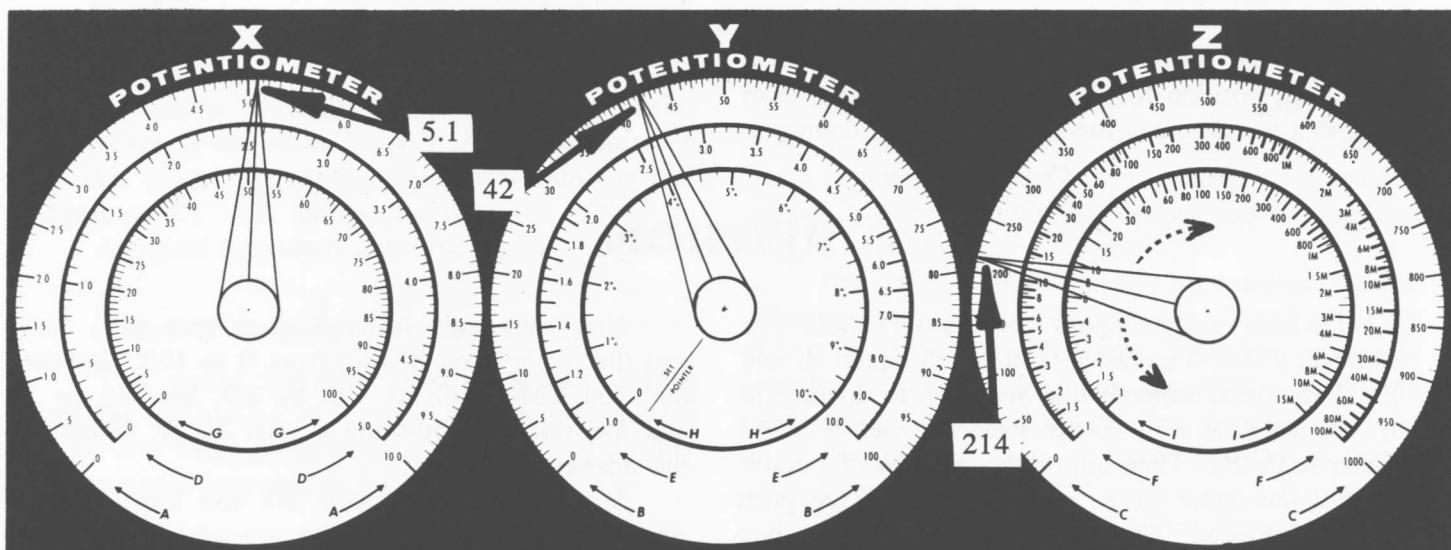

Fig. 19
- 1) Set the pointer for X at any desired number on the outer scale (scale A). For example, set the pointer at 5.1 (Fig. 19).
- 2) Set the pointer for Y at any number on the outer scale (scale B). For example, set the pointer at 42 (Fig. 19).
Your answer for the number above will be close to the correct answer, 214. (See Fig. 19.)